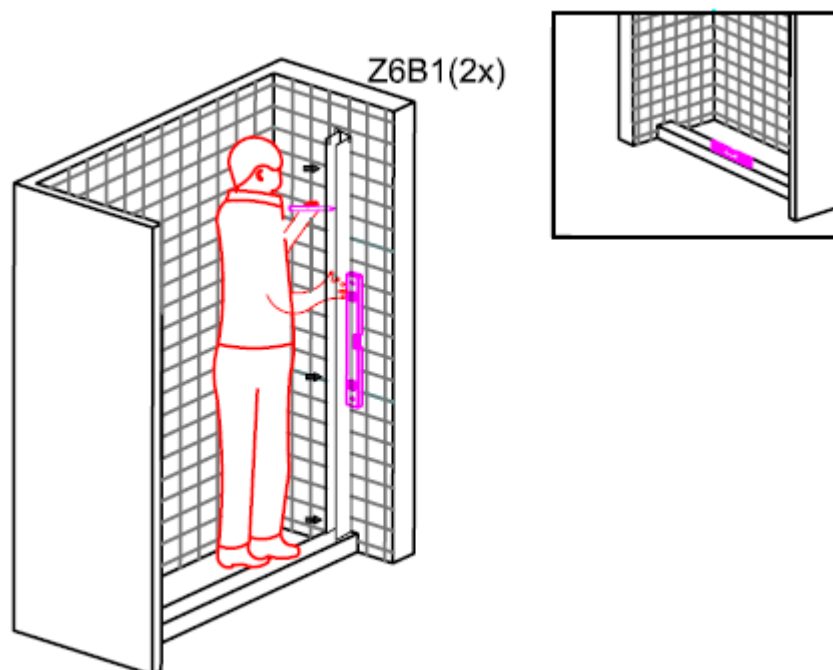

Figure 1
1. Using the spirit level to make sure the frame between the walls is horizontal, Lift the wall profile(Z6B1) upto the wall.Check whether the frame is vertical by using a spirit level.Mark the holes to the walls with a pencil,as shown in figure 1.